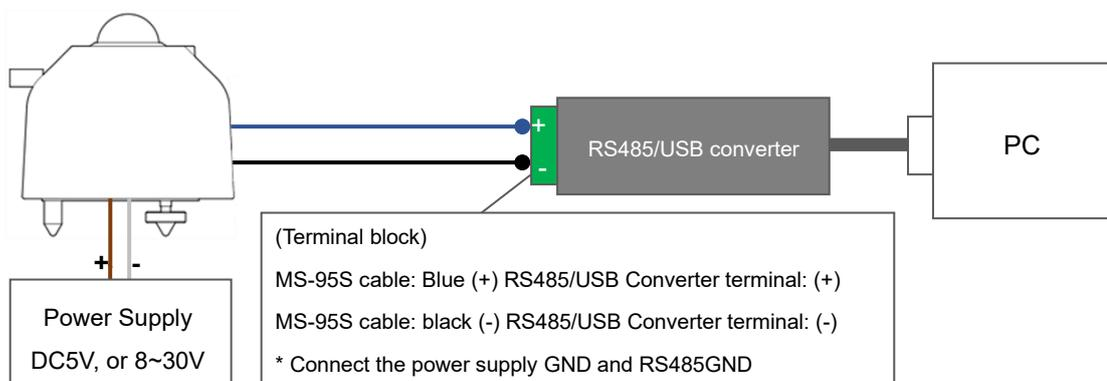

Figure A1-1. Hardware preparation
- 3) Connect the power lines of the signal cable to the power supply (DC5V or 8 to 30V), and turn on the power supply. (Refer to Figure A1-1.)